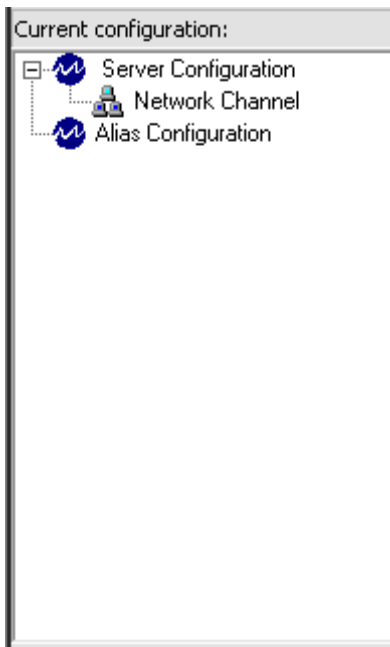

Figure 25 - New Network Channel Object
8. Click on the **OK** button. The object is created and will appear as a child of the **Server Configuration** item as shown in Figure 25.